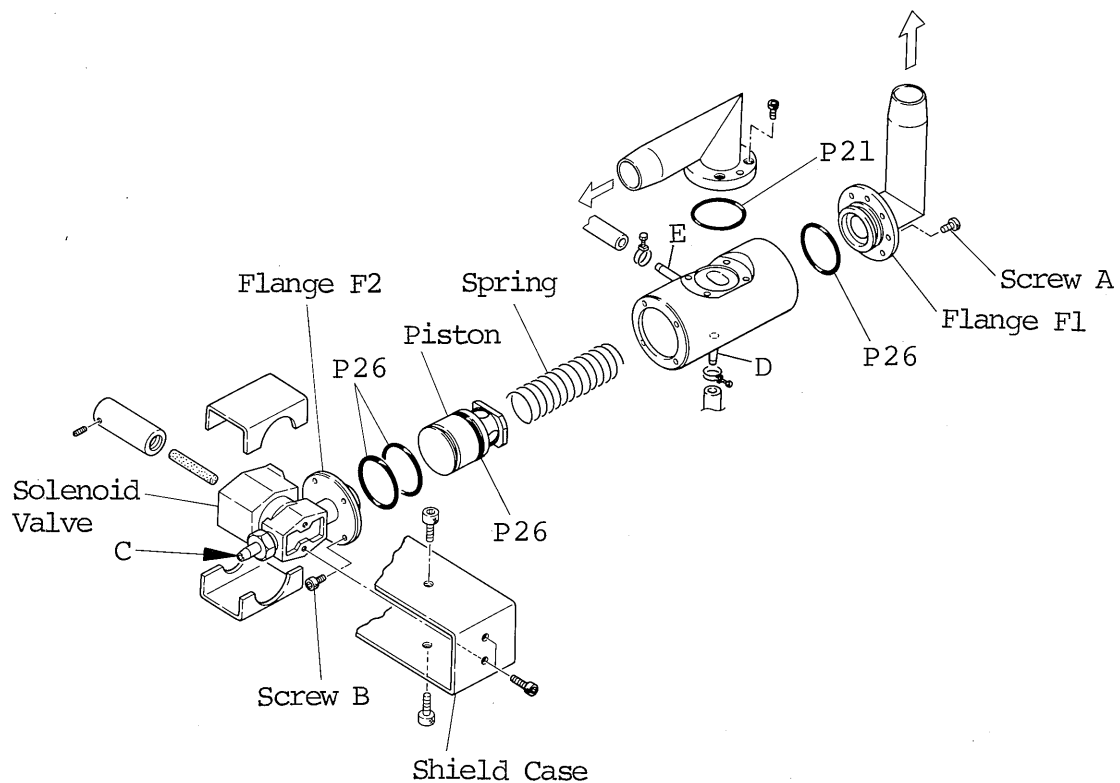

Fig. 6.8-2
10. Secure the flange F2 with screw B and mount the shield case (refer to Fig. 6.8-2).
12. Build in the spring and secure the flange F1 with screw A (refer to Fig. 6.8-2).